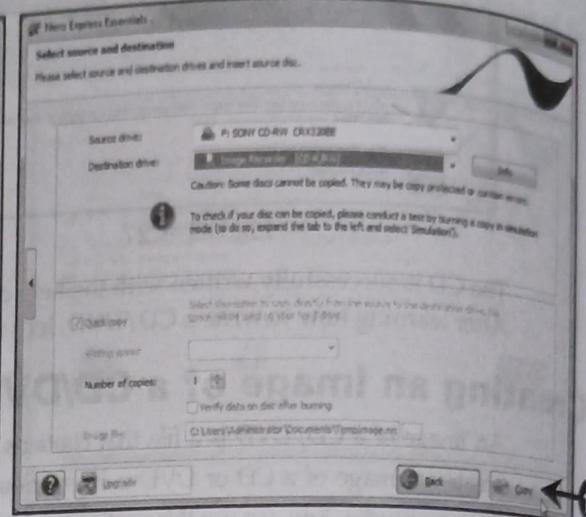

Fig.HD-8.31
10. Click the Copy button in the Nero Express Essentials wizard, as shown in Fig.HD-8.31: